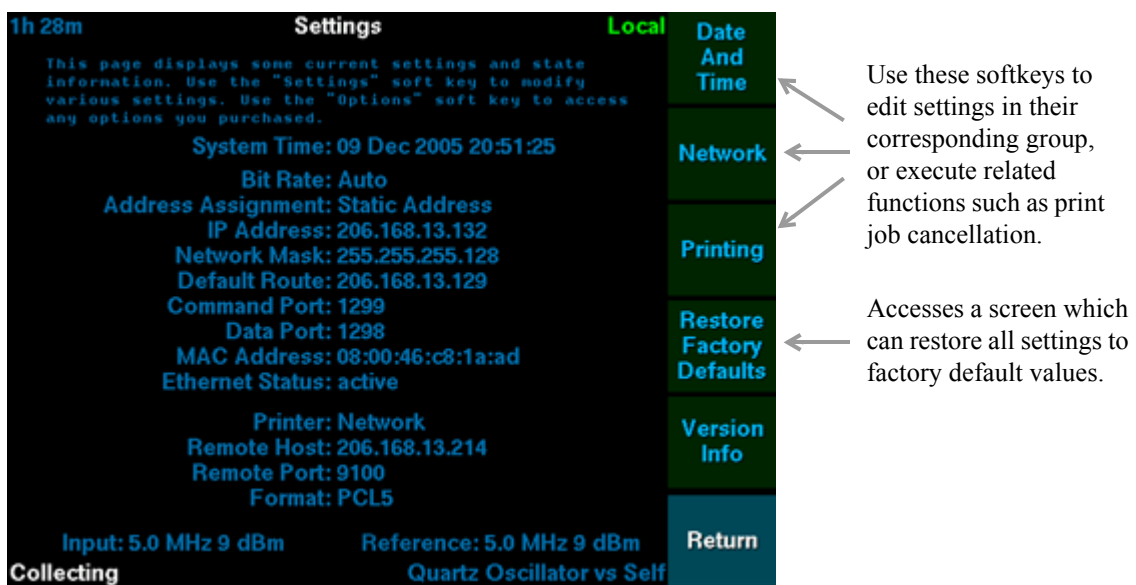

Figure 8: Settings Screen
2. Press **Settings** to access the Settings Screen (shown in Figure 8 on page 21).
If your network has a Dynamic Host Configuration Protocol (DHCP) server and the *DHCP* assignment method is selected, the IP address does not have to be configured. Once the test set is connected to the network, it should receive an IP address from the server. The address of the test set must be determined in order to make a network connection from another computer. It can be found in “Figure 8: Settings Screen” on page 21 (your system’s address will vary from that shown in the figure).